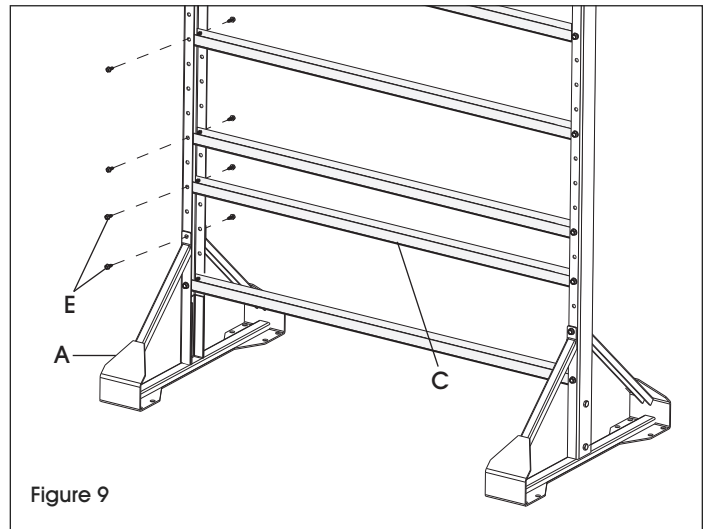

Figure 9
Attach a crossbar (C) to the fifth hole up from the bottom using #14 sheet metal screws (E). Skip one hole and place crossbar in seventh hole from bottom. Skip three holes, attach the remaining crossbars after every third hole. (See Figure 9)
NOTE: Attach each base assembly (A) to the third hole up using #14 sheet metal screws (E). (See Figure 9)